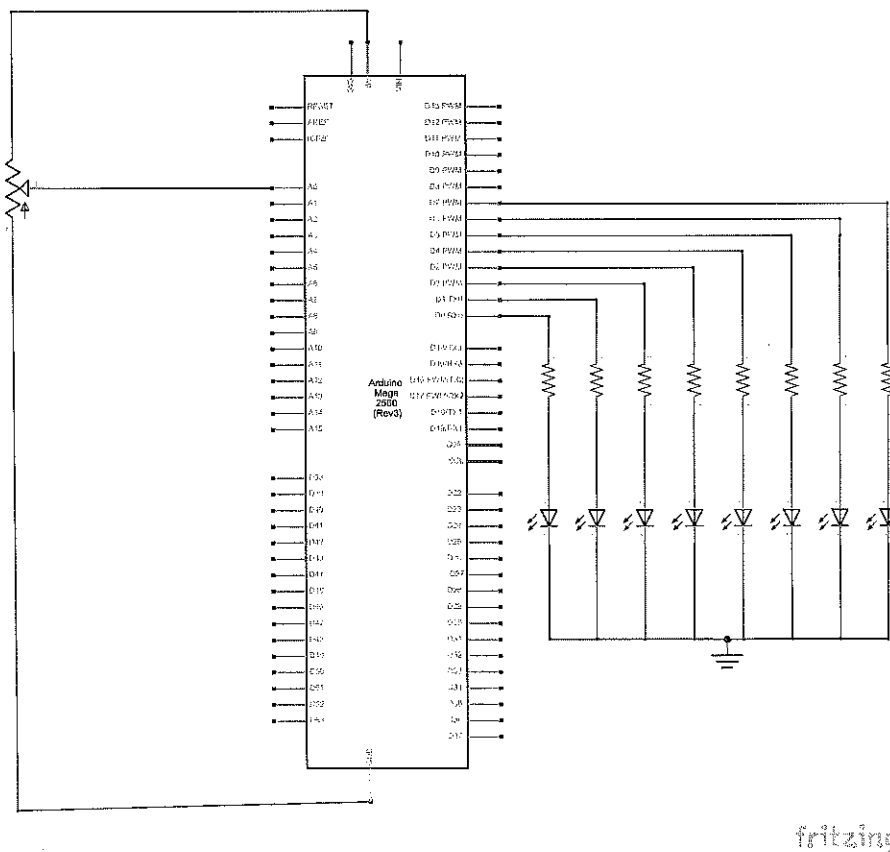

Figure 2: Schematic showing LED and analog input connection (source: Fritzing)
In a microcontroller based temperature control system, an Atmel ATmega2560 microcontroller on the popular Arduino Mega board was used to read temperature from an analog temperature sensor and control LED's. The circuit diagram in Fig. 2 shows the connection from the Arduino Mega to the LED's and the temperature sensor input. Note that the variable resistor is used instead of a temperature sensor.
- (a) Write an equation to convert the digital value into voltage value. (3)
- (b) Using the equation, calculate the value of the voltage on analog pin 0 if the serial monitor displays a digital value of 44. (3)
- (c) Rewrite the program given above to display the voltage value on analog pin 0 on the serial monitor screen. (5)
- (d) Assume that the potentiometer is replaced with an analog temperature sensor (LM35). Rewrite the program to display the temperature value instead of the voltage value. Assume that the temperature is in degrees Celsius and that the temperature change is 10 mV/°C. (4)
- (e) Write a program that will control the LED's connected to the digital I/O pins (0 - 7) of the Arduino as shown in Figure 2. At a temperature of 25°C, only one LED must be high, that is LED connected to output pin 0. As the temperature increases in steps of 5°C, then the rest of the LED's must become high in a sequence. That is at 30°C, LED's 0 and 1 must be high; at 35°C, LED's 0, 1 and 2 must be high, and so on. As the temperature drops then the LED's should also indicate this as well. Therefore, the LED's act as a visual display of the temperature from 25°C in steps of 5°C. (5)